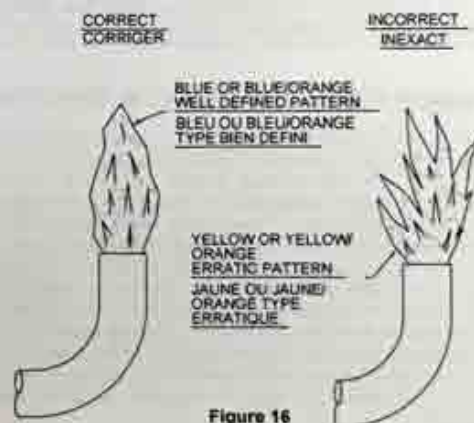

Figure 16
- A. Main Burner:** Do not allow the burner to burn with a yellow flame, because sooting will occur. (See Safety Warnings). If the burner flame is yellow and has an erratic pattern, shut unit down and contact a qualified service agency. Do not continue operating unit with improper burner flame. (See Figure 16 for correct and incorrect burner flame appearance.)